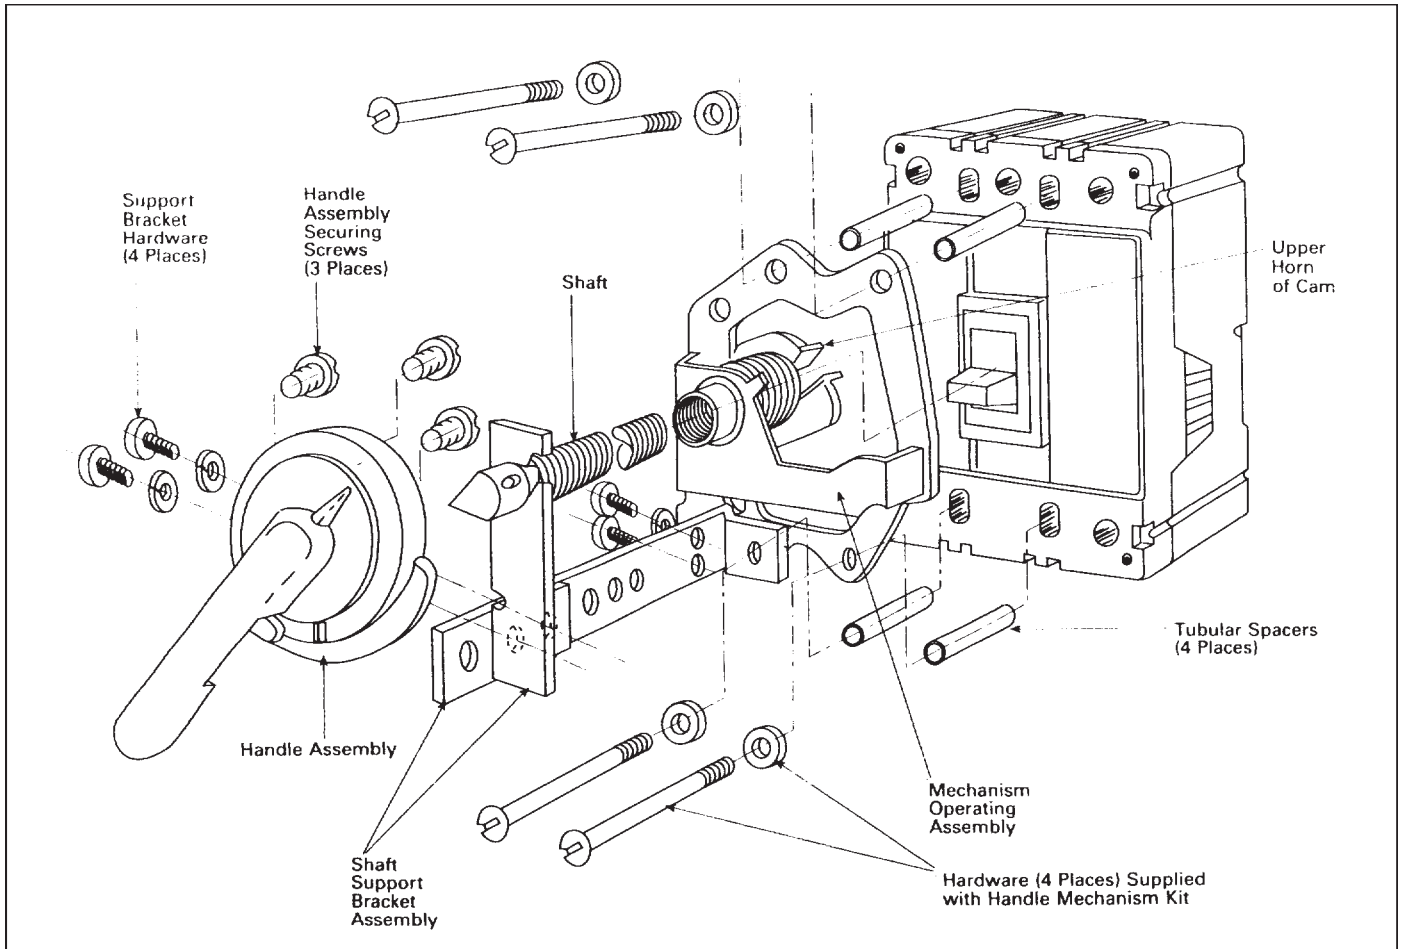

Fig. 6. Securing Circuit Breaker, Handle Mechanism and Shaft Support Bracket to Mounting Surface.
1. If using extra long shaft (F-Frame Series C only) assemble shaft support bracket to mechanism operating frame as per Fig. 6 with four 164-32 x 5/16" screws and lockwashers.